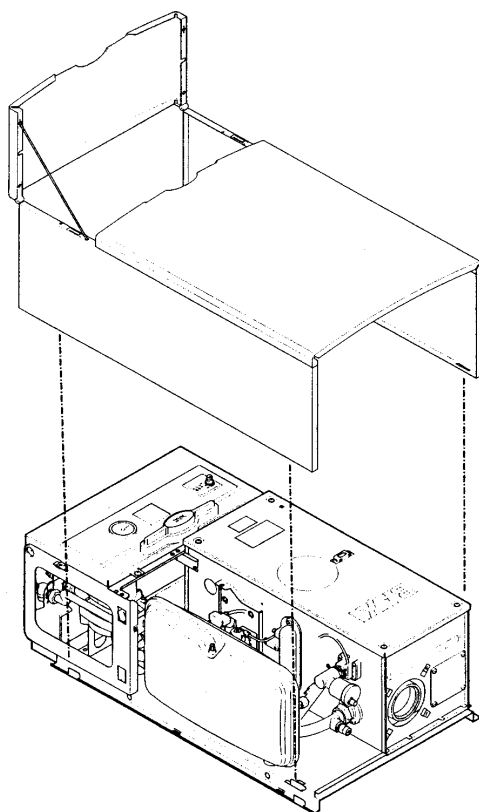

Fig. 23
3. Slide the outercase upwards to disengage the hooks on the backplate and remove (Fig. 23).